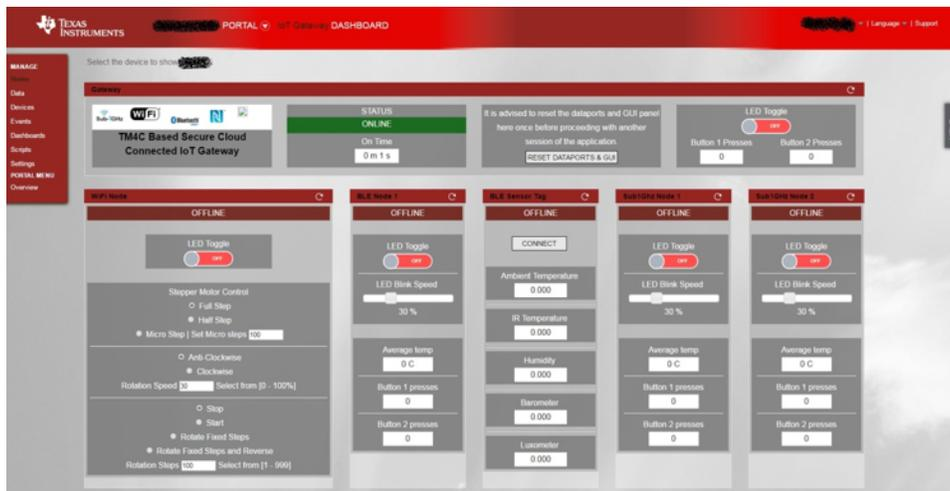

Figure 25. IoT Gateway Dashboard Showing Gateway ONLINE
8. Now go to the dashboard "IoT Gateway", which should display the gateway as "ONLINE" as shown in Figure 25 if connected properly.